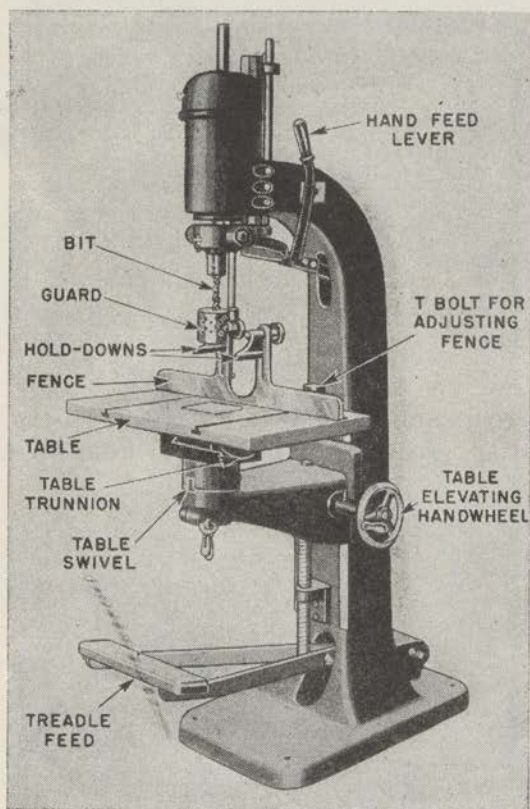

FIGURE 66.—Drill press.
g. Drill press or borer (fig. 66).—(1) Every woodworking shop should have some sort of drill press or boring machine similar to the drill press used in a machine shop. It uses twist drills and bit, which are like auger bits (par. 8j) except that they have no screw threads to draw them into the wood, and depend upon pressure. To operate